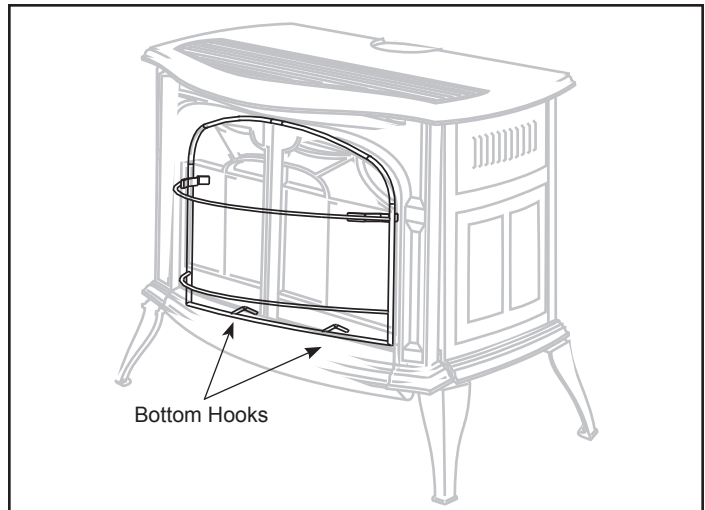

Figure 3.39 - Install safety barrier screen.
2. Place the two bottom hooks over the bottom edge of the stove opening Figure 3.39.